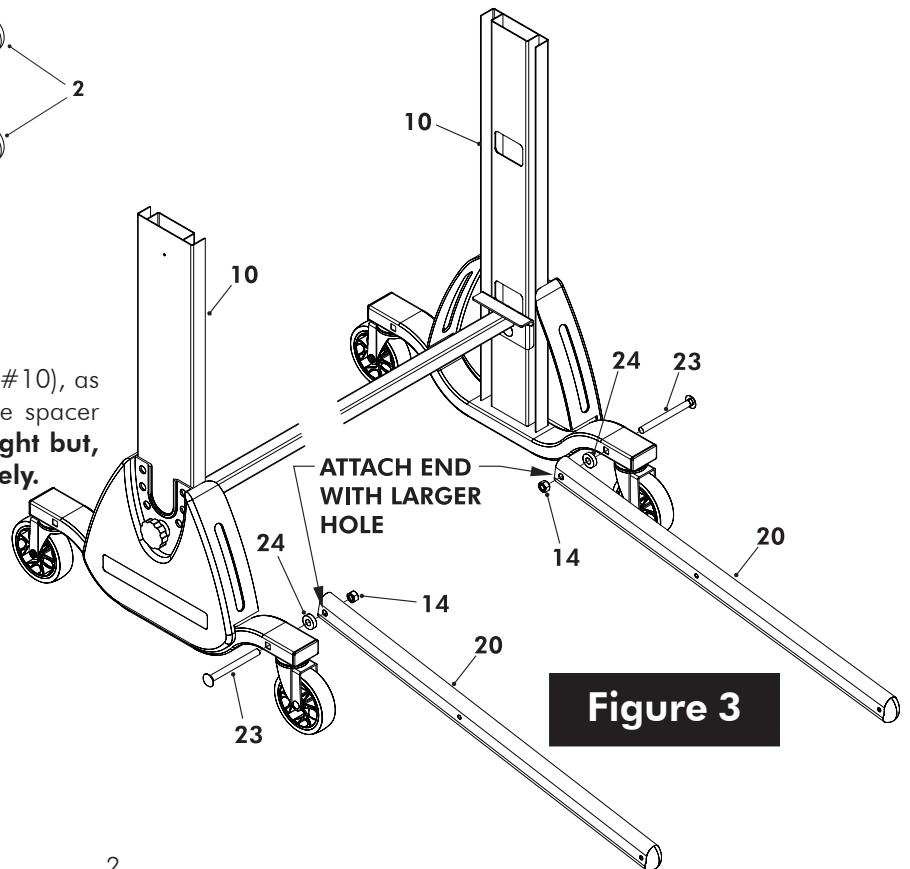

Figure 3
5. Attach two Struts (#20) to Upright Assemblies (#10), as shown in Figure 3, using one bolt (#23), one spacer (#24) and one locknut (#14). **Tighten bolts tight but, do not over tighten. Joints must pivot freely.**